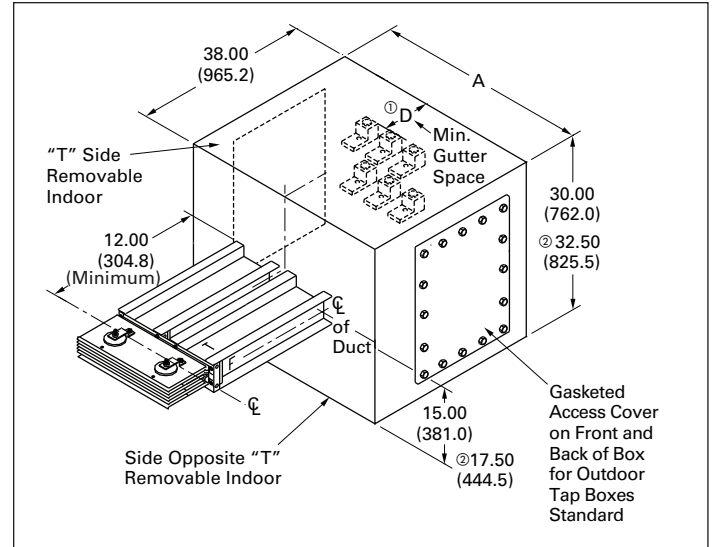

Figure 27. End cable tap box
End cable tap box (Figure 27)
- ① For compression lugs, factory provides provisions only.
- ② All dimensions shown in **Figure 27** remain constant regardless of system wiring configuration.
- ③ Denotes quantity of terminals per ground bus.
- ④ Denotes quantity of terminals per phase and 100% neutral bus.
- ⑤ Denotes quantity of terminals per 200% neutral bus option.